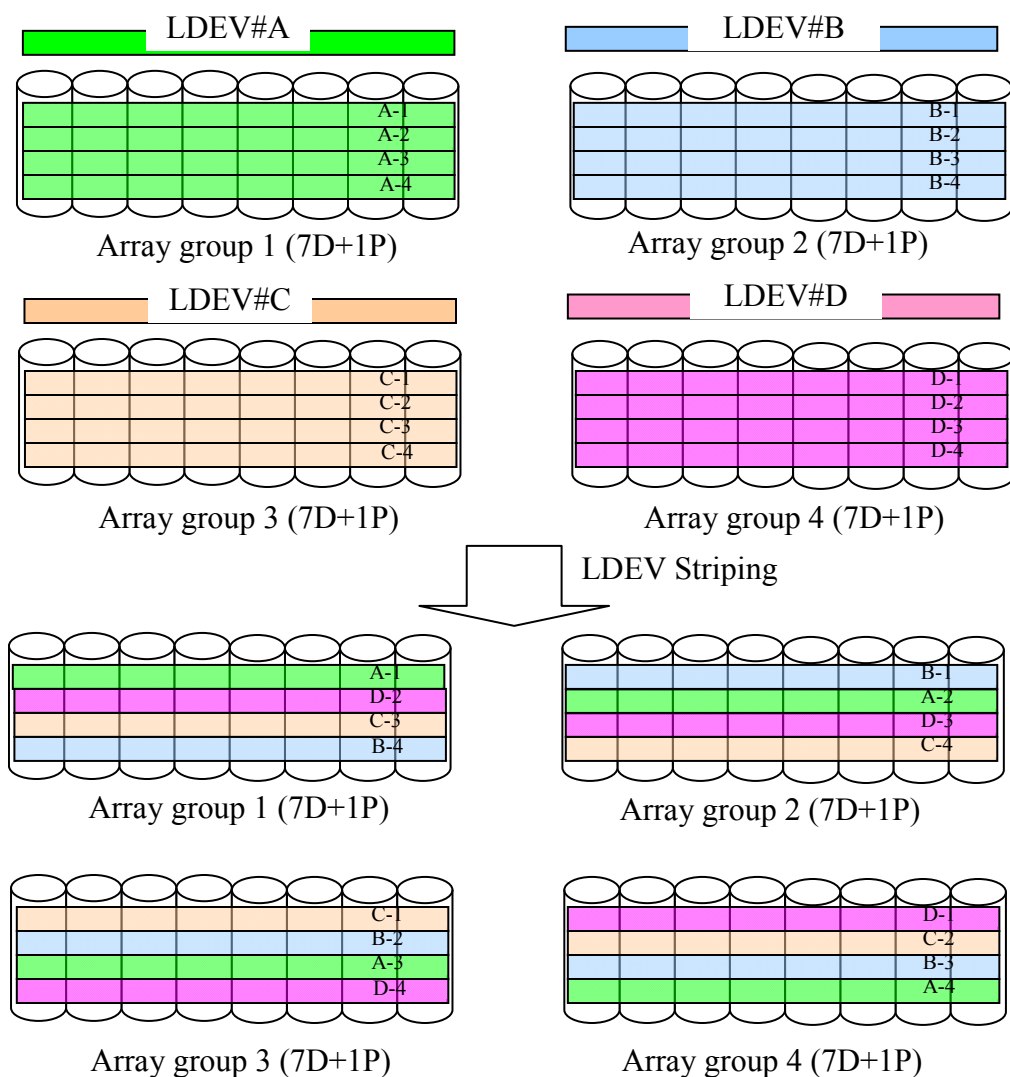

Figure 3-4 LDEV Striping Across 4 RAID-5 (7D+1P) Array Groups
- LDEV striping across four RAID-5 (7D+1P) array groups (see Figure 3-4). The maximum number of LDEVs in this configuration is 2000.